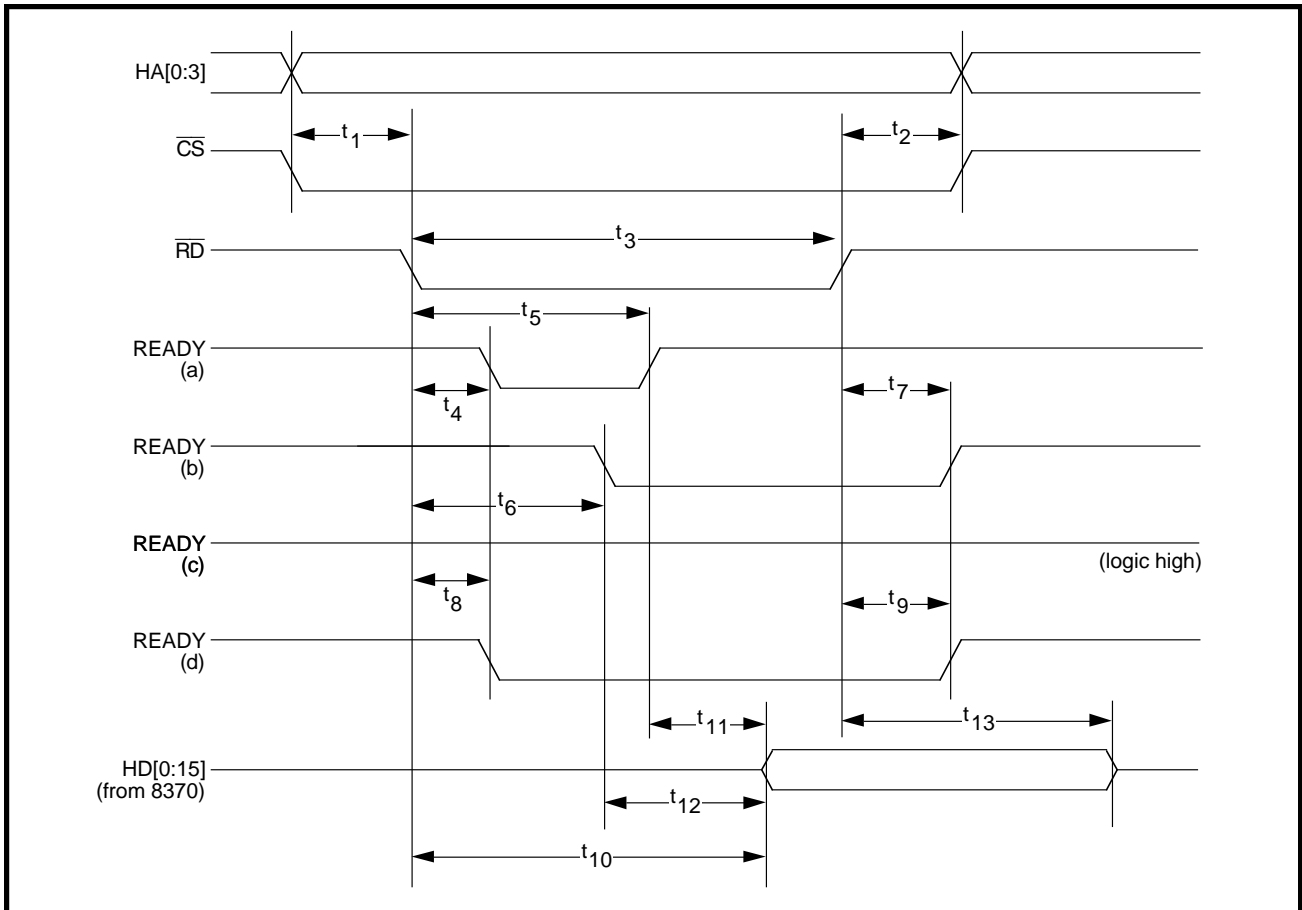
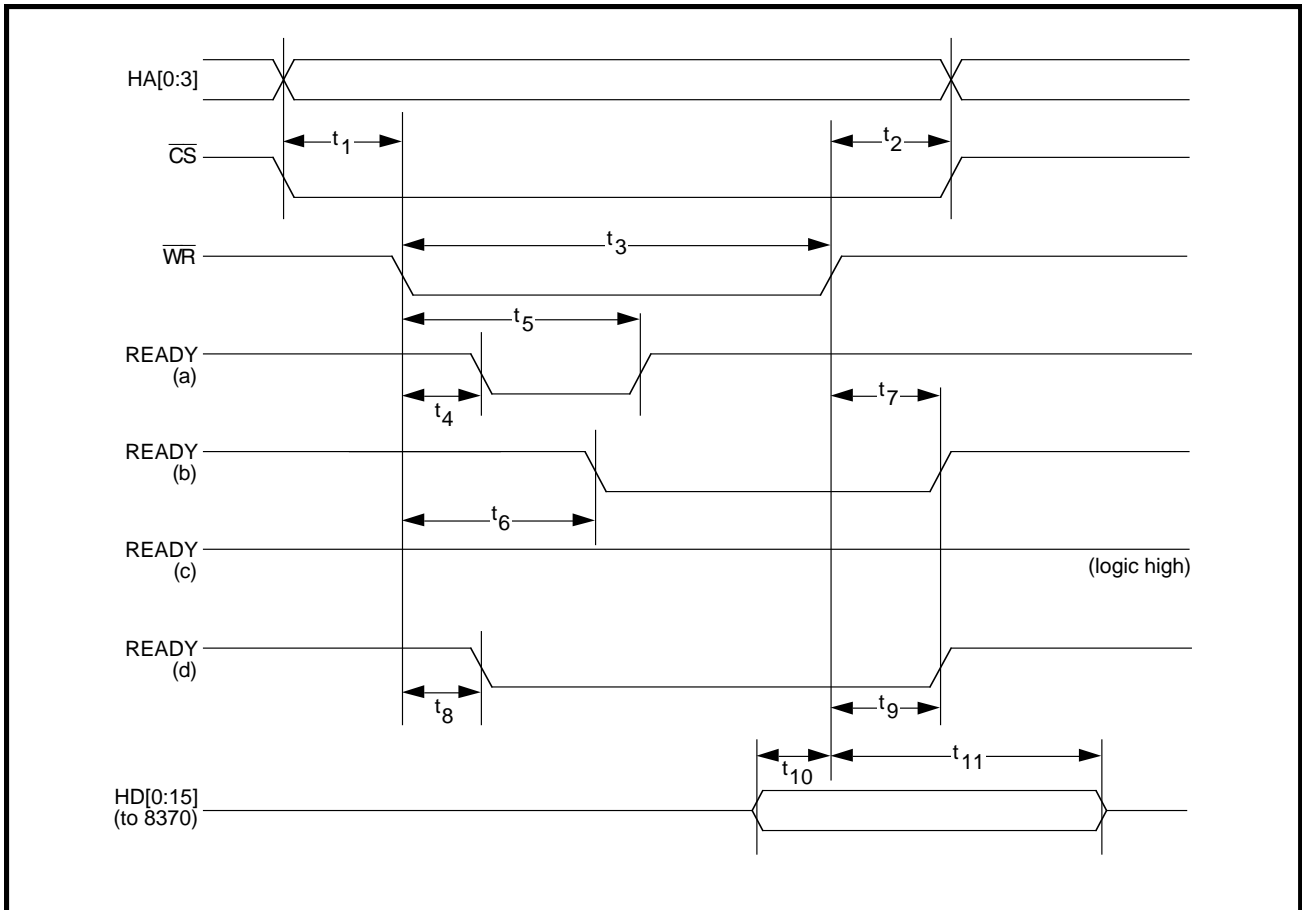

FIGURE 6: Read Cycle, Generic Bus Mode (Refer to Table 5)
FIGURE 7: Write Cycle, Generic Bus Mode (Refer to Table 6)
TABLE 5: Read Cycle, Generic Bus Mode (Refer to Figure 6)
TABLE 6: Write Cycle, Generic Bus Mode (Refer to Figure 7)
- Note: (1) An asserted EOP terminates any further DMREQ after $\overline{\text{DMACK}}$ returns high.
(2) The DMA cycle uses $\overline{\text{DMACK}}$ as the chip select. $\overline{\text{DMACK}}$ overrides $\overline{\text{CS}}$ and $\text{HA}[0:3]$ if they are both asserted at the same time, forcing selection of the Buffer Memory Port as in a DMA cycle.
(3) For READY timing and $\text{HD}[0:15]$ timing, see Figure 6, t_4 - t_{13} , and Figure 7, t_4 - t_{11} .
- Note: (1) DMREQ goes low during the next-to-last transfer of the burst. DMACK should not go high until after the RD or WR pulse of the last transfer cycle goes high
(2) The DMA cycle uses DMACK as the chip select. DMACK overrides CS and HA[0:3] if they are both asserted at the same time, forcing selection of the Buffer Memory Port as in a DMA cycle.
(3) For READY timing and HD[0:15] timing, see Figure 6, t_4-t_{13} , and Figure 7, t_4-t_{11} .